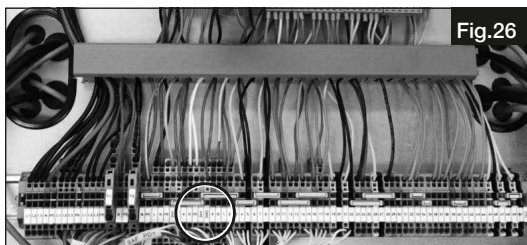

Fig.26
3. Connect the controller cable to the marked terminals in the terminal box (Fig.26) (see wiring diagram).